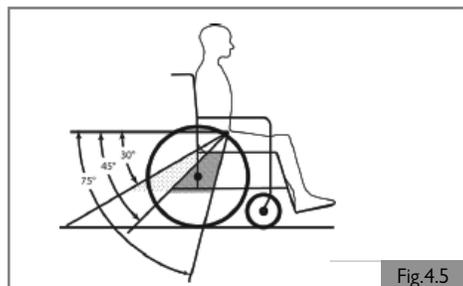

Fig.4.5
21. A steeper (greater) angle within the preferred zone is desirable, closer to, but not exceeding 75 degrees (Fig.4.5).